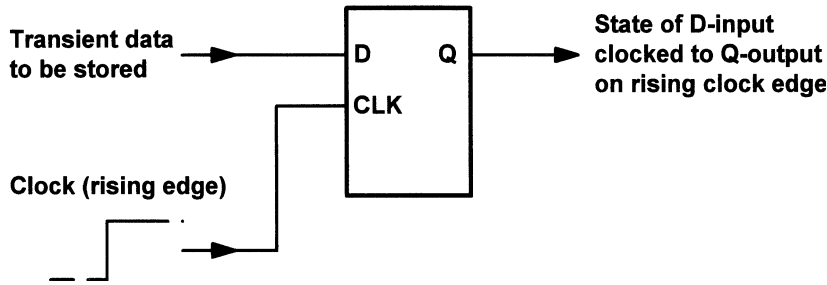
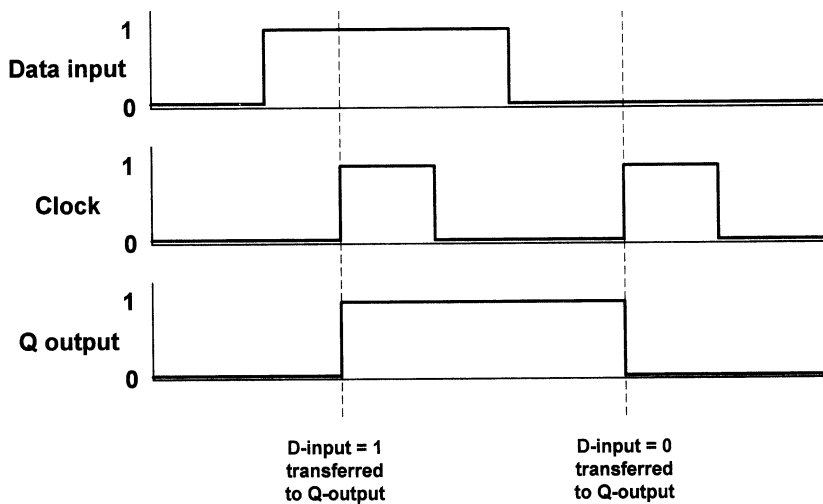

Figure 10.20 D-type bistable operation
Figure 10.21 Timing diagram for the D-type bistable
The D-type bistable has two inputs: D (standing variously for data or delay) and CLOCK (CLK). The data input (logic 0 or logic 1) is clocked into the bistable such that the output state only changes when the clock changes state. Operation is thus said to be synchronous. Additional subsidiary inputs (which are invariably active low) are provided which can be used to directly set or reset the bistable. These are usually called PRESET (PR) and CLEAR (CLR). D-type bistables are used both as latches (a simple form of memory) and as binary dividers. The simple circuit arrangement in Fig. 10.20 together with the timing diagram shown in Fig. 10.21 illustrate the operation of D-type bistables.